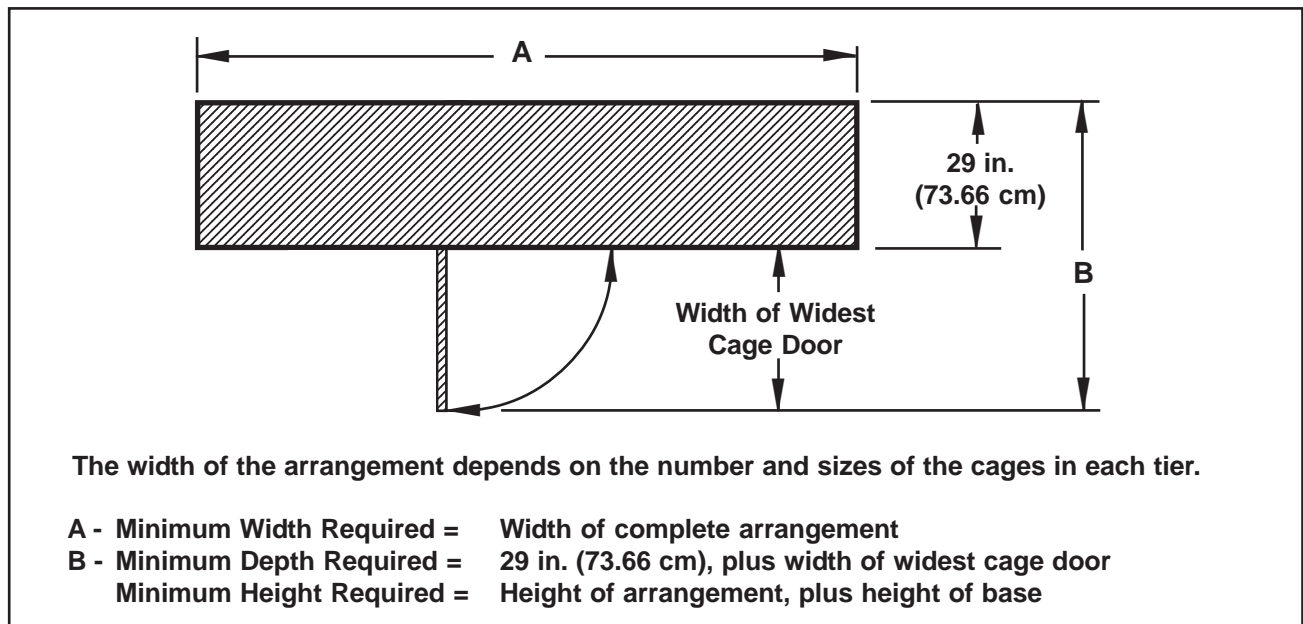

Figure 3. Top View of Minimum Space Required for a Straight Arrangement
- Straight arrangements - Figure 3 below
In a straight cage arrangement, the cages are set up in a single straight line. The arrangement can consist of one or more tiers. Figure 3 shows the minimum space required for a straight arrangement. Note that the required depth includes the width of the widest cage door in the arrangement. This allows all doors to open fully giving you sufficient space in front of the arrangement to handle patients safely and conveniently. Also keep in mind that two or three extra inches above the arrangement, in addition to the minimum height, will ease installation (and later removal, if necessary).